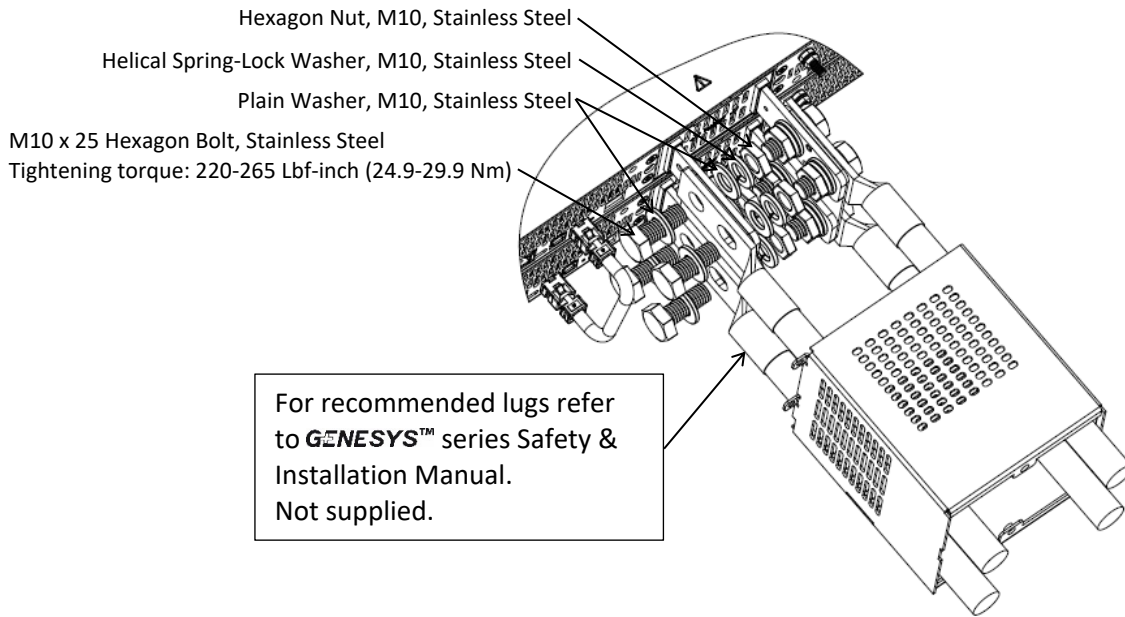

Figure 12: Two 20V-40V Units Lugs Assembly
- Assemble one lug on each bus bar using two hexagon bolts, four plain washers, two helical spring-lock washers and two hexagon nuts as illustrated in Figure 12.